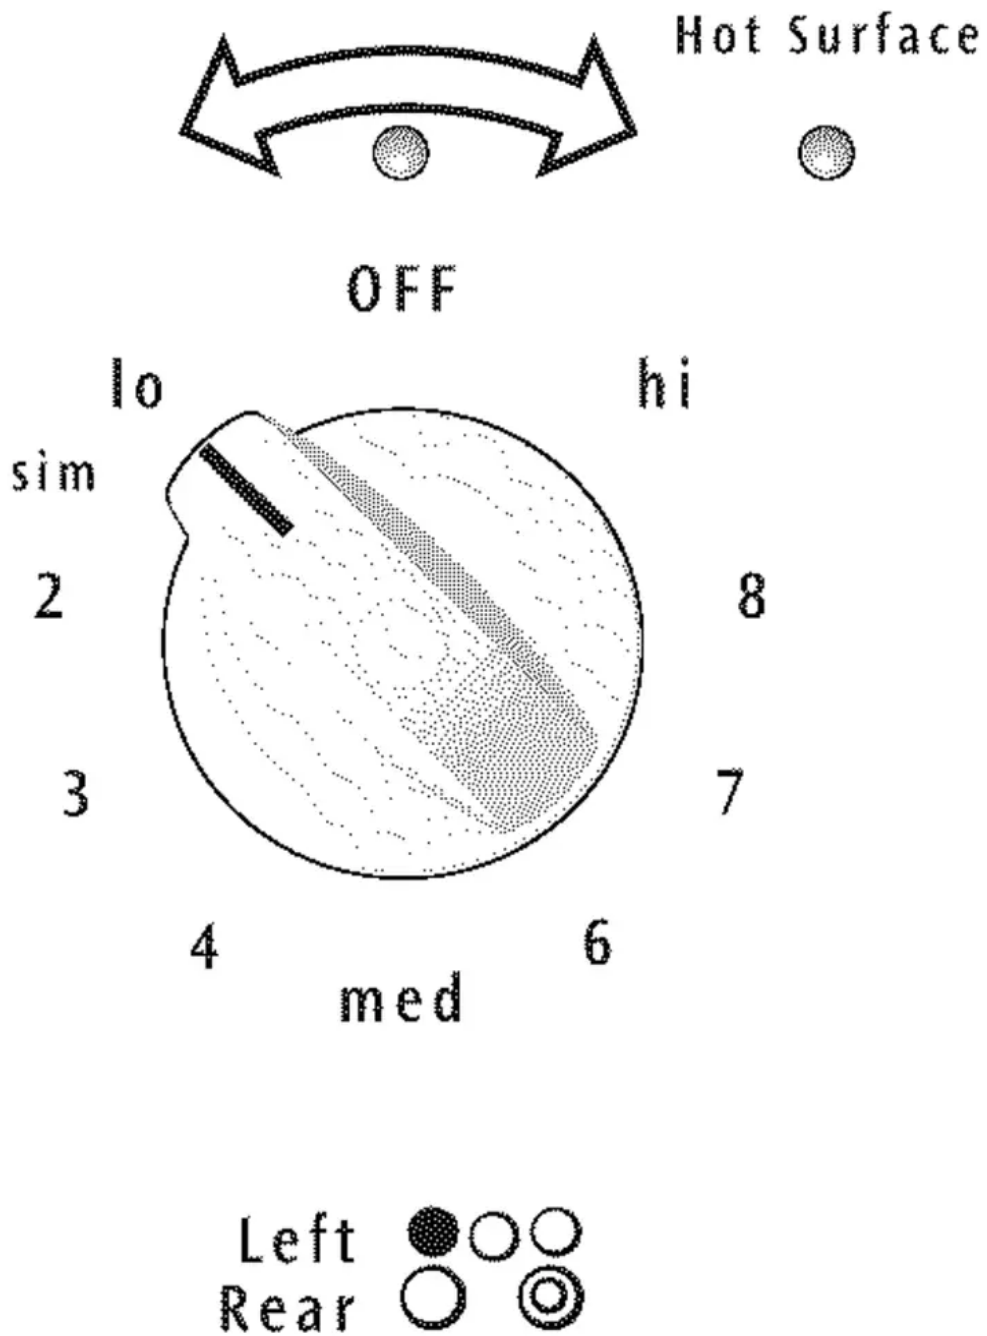

Fig. 3
2. Push in & turn the surface control knob in either direction to the desired setting (Refer to the Suggested Radiant Surface Element Settings Table & Fig. 3). Start most cooking operations on a higher setting and then turn to a lower setting to finish cooking. The surface control knobs do not have to be set exactly on a particular mark. Use the marks as a guide and adjust the control knob as needed. Each surface element provides a constant amount of heat at each setting. A glowing red surface heating area extending beyond the bottom edge of the cookware indicates the cookware is too small for the